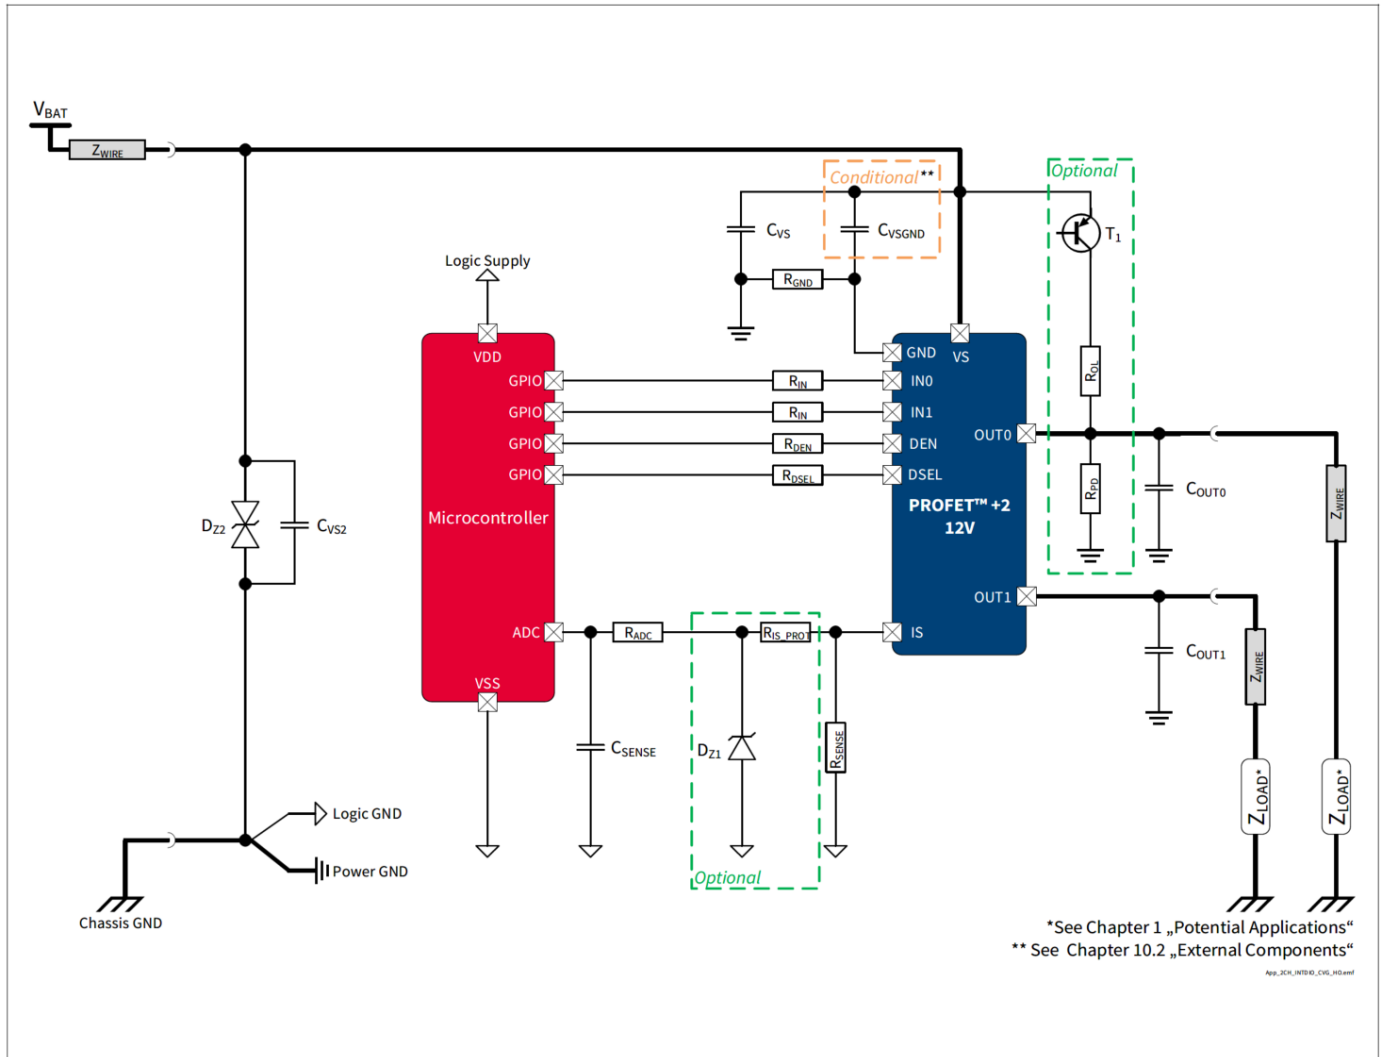

Figure 42 BTS7200-2EPA Application Diagram
1.03, 2019-10-15	P_8.7.9.1, P_8.7.9.7, P_8.7.9.8 updated (added in Note or Test Condition: link to Figure 25) P_7.5.9.4, P_7.5.9.5 updated (added in Note or Test Condition: DEN = “low”; link to Figure 19) P_7.5.9.12 updated (added in Note or Test Condition: See Figure 21 ; deleted unnecessary space in Symbol: $ dV_{OUT} / dt \rightarrow dV_{OUT} / dt $) P_8.7.9.6 updated (added in Note or Test Condition: see Figure 26) P_9.7.9.1 updated (added in Note or Test Condition: See Figure 33) P_9.7.9.5 updated (Min./Typ./Max.: -45%/670/+45% → -25.0%/665/+25.0%) P_9.7.9.6 updated (Min./Typ./Max.: -36%/670/+36% → -24.0%/665/+24.0%) P_9.7.9.8 updated (Min./Typ./Max.: -30%/670/+30% → -22.5%/665/+22.5%) P_9.7.9.12 updated (Min./Typ./Max.: -14%/670/+14% → -11.0%/665/+11.0%) P_9.7.9.13 updated (Min./Typ./Max.: -11%/670/+11% → -8.5%/665/+8.5%) P_9.7.9.15 updated (Min./Max.: -6%/+6% → -6.0%/+6.0%) P_9.7.9.17 updated (Min./Max.: -5%/+5% → -5.0%/+5.0%) P_7.5.9.11 updated (added in Note or Test Condition: See Figure 19) Figure 1, Figure 42 updated Chapter 1 updated (or LED equivalent → or equivalent electronic loads (e.g. LED modules)) P_4.3.0.7 added Table 24 updated Chapter 5.1 updated (added: see Chapter 10 for the complete application setup overview)